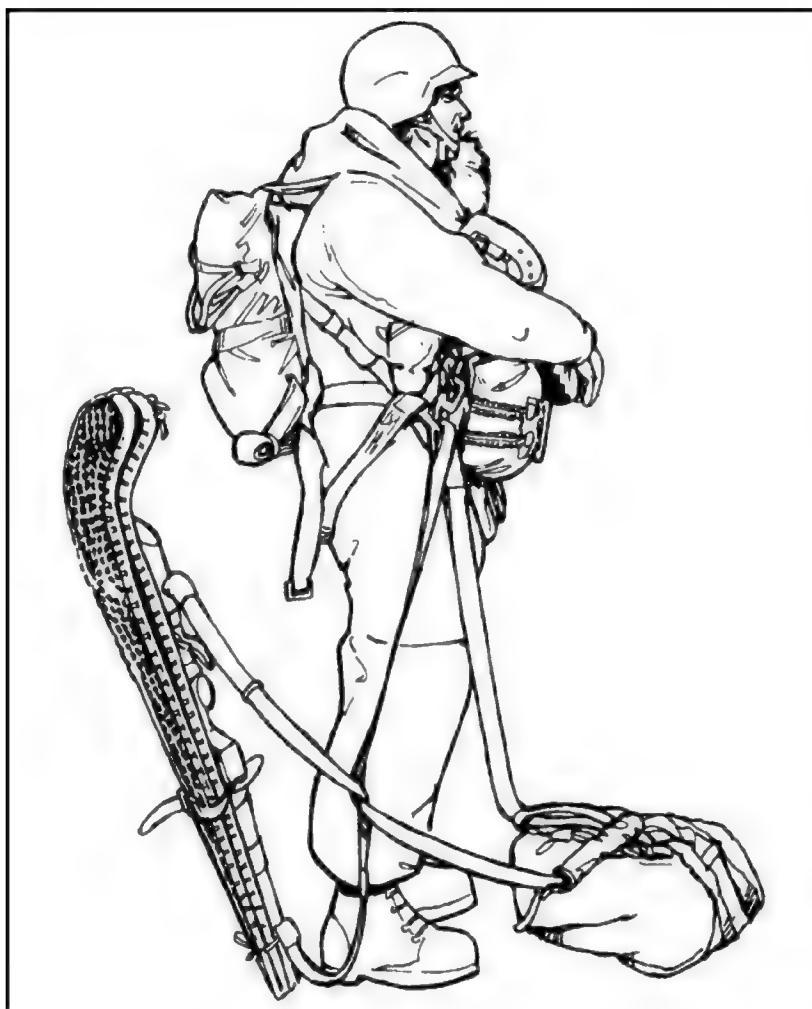

Figure 13-7. Lowering line assembly attached for a tandem load.
a. A length of 80-pound test tape is attached around the sling and the main lift web with a bow knot (just below the canopy release assembly). The lowering line adapter web is attached (Figure 13-7) to the left (right) side, corresponding to the side to which the snowshoes and rifle are to be attached.